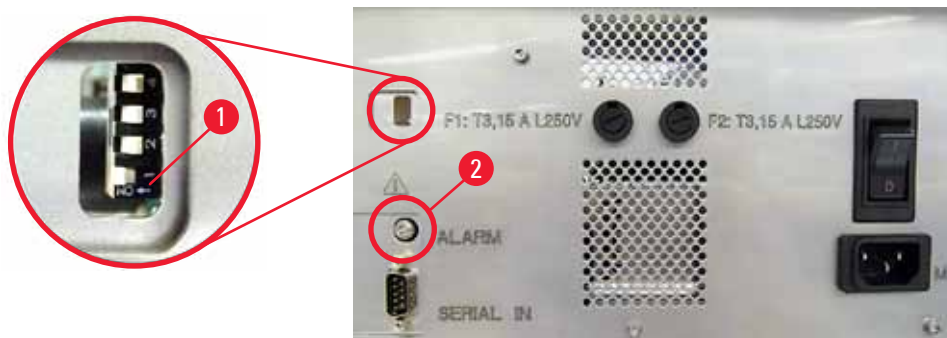

Fig. 40
- » To deactivate the beeper, push the switch at the very bottom (→ "Fig. 40-1") to the right (→ "Fig. 40").